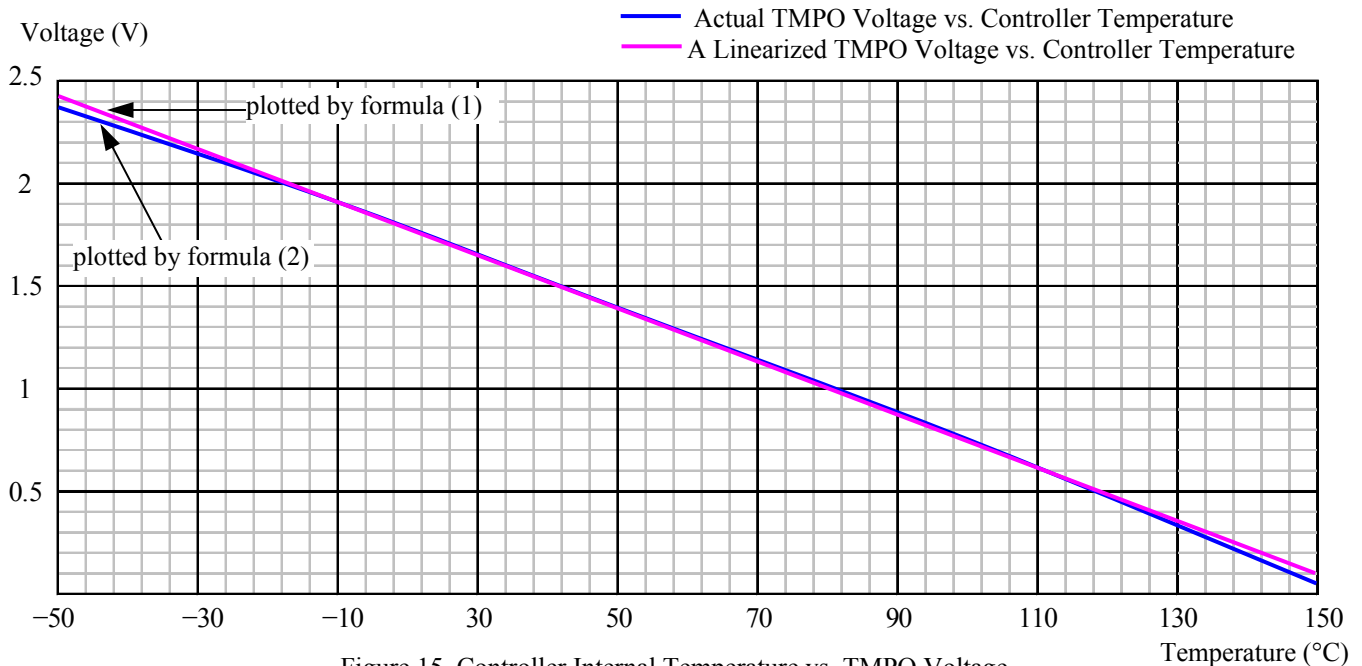

Figure 15. Controller Internal Temperature vs. TMPO Voltage
Within the most commonly used temperature range of between  $0^\circ\text{C}$  to  $100^\circ\text{C}$ , the maximum error occurs at about 1.5V, at which the temperature error between the calculated data by using the formula (1) and the approximated data obtained by using the linear equation (2) is about  $0.4^\circ\text{C}$ , with the linear data being a little lower. The curves of the 2 sets of the data are plotted in Figure 15.
The schematic is shown in Figure 15, where Power Supply 1 is the power supply for the laser driver, Power Supply 2 is for increasing the laser driver's maximum output voltage.